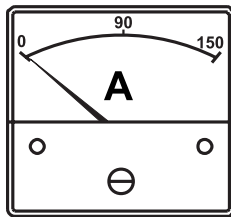

Figure 49. Ammeter (No Load)
6. The **ammeter** (Figure 49) will indicate **zero amps** with no load applied. When a load is applied, the ammeter will indicate the amount of current that the load is drawing from the generator.